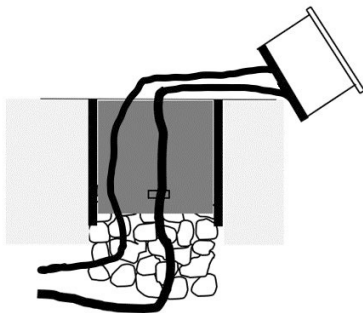

Fig. 3
- There must be enough cable below the luminaire to carry out maintenance work (see Fig. 3)